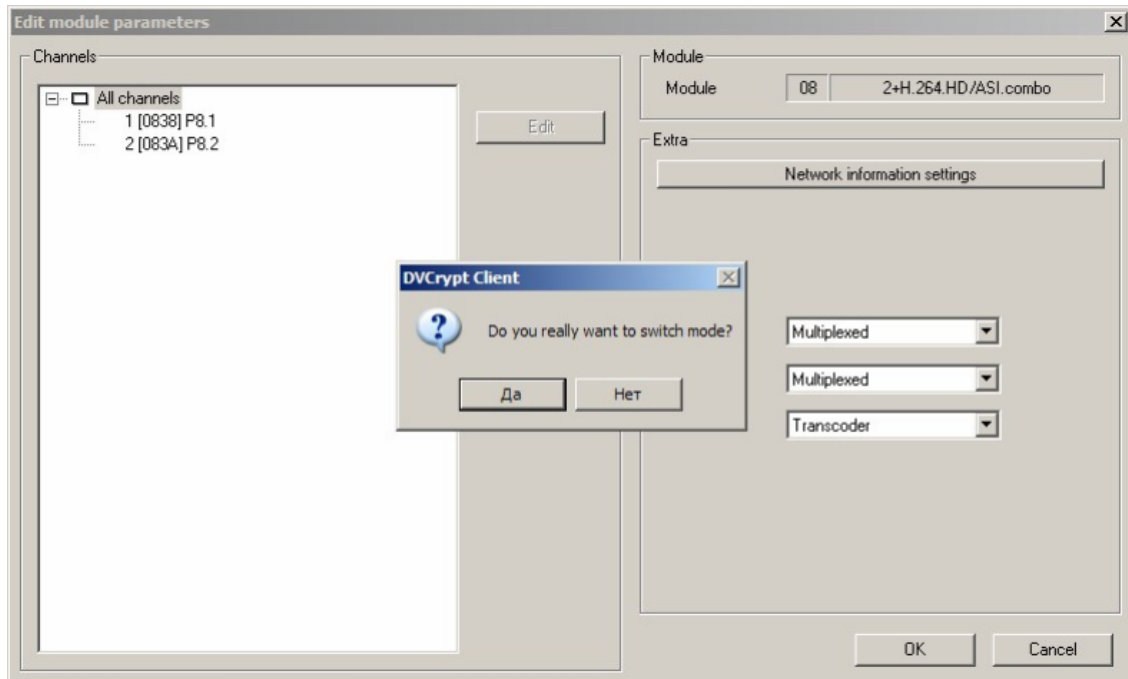

Fig.3.9
1. Select "Transcoder" Fig.. 3.9.